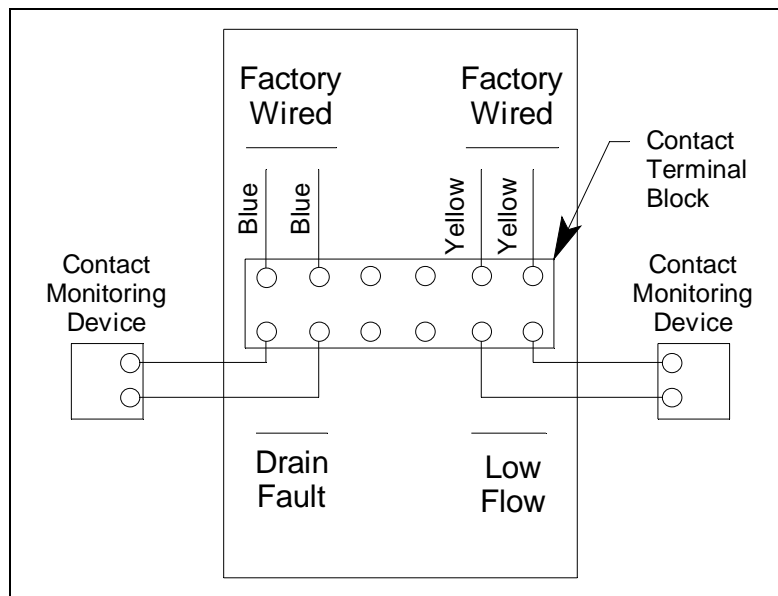
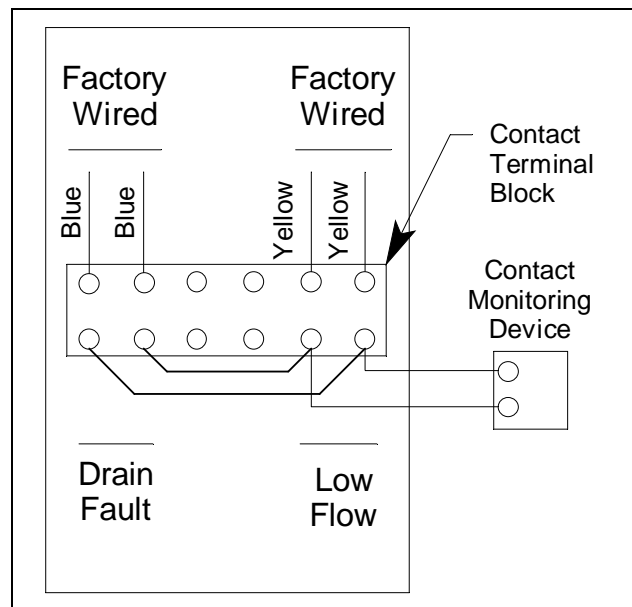

Figure 6: Low Flow and Drain Fault Wiring, Independent Wiring
Figure 7: Low Flow and Drain Fault Wiring, Parallel Wiring
8. Reconnect any wires that were removed before setting the drain fault switch. Refer to Figure 6 and Figure 7 for wiring diagrams.